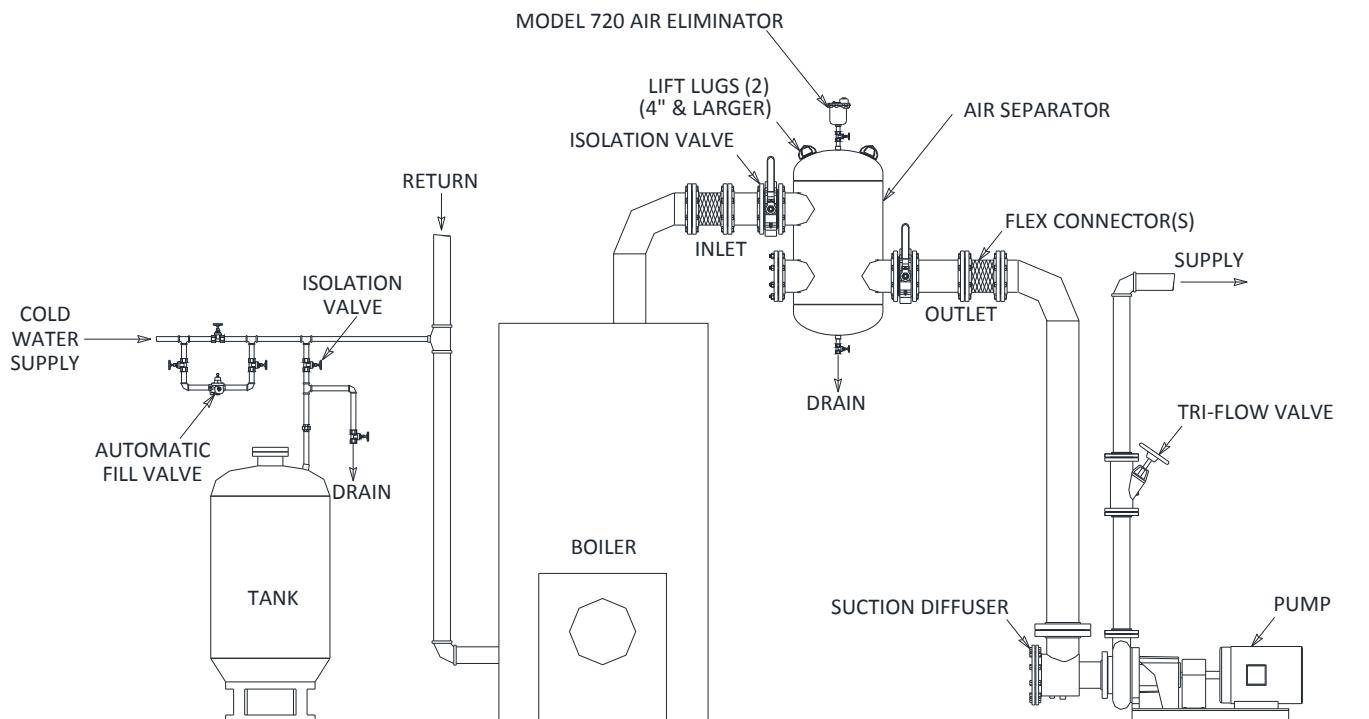

Figure 4-1 Typical Piping Diagram
Using the figure below as reference, follow the steps outlined to install piping for the Air Separator (Figure 4-1, shown with AS Model). Before making any piping connections, ensure that all piping is clean and free of any foreign material such as debris or scale. Foreign material in the piping can cause damage to the unit and/or affect the performance and operation. Manual shutoff valves should be installed upstream/downstream from all connections to act as an isolation device. These valves should be in the closed position and remain so until the installation is complete. Expansion joints and/or flex connectors are recommended to prevent pipe strain caused by thermal expansion or piping misalignment.
1. Connect the supply source to the inlet connection of the Air Separator. Be sure the upstream manual shutoff valve is in the closed position (Figure 4-1).
2. Connect the suction piping of the pump to the outlet connection of the Air Separator. Be sure the downstream manual shutoff valve is in the closed position (Figure 4-1).